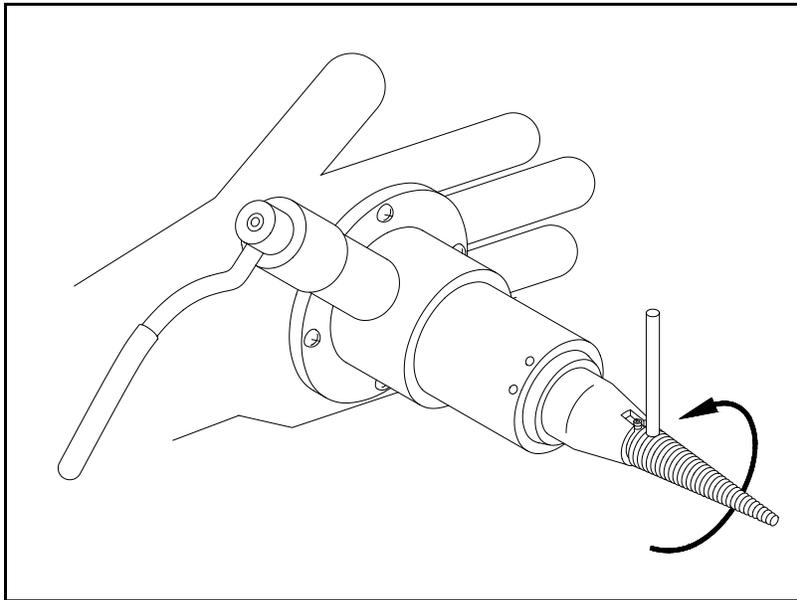

Figure 3.
- 5.5 Hold the steel clutch plate to keep it from turning while you remove the spiral. See Figure 3.